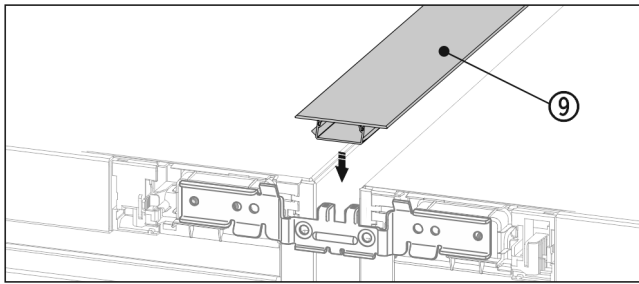

Fig. 24
- ▶ On the top press the short cover strip Fig. 24 (9) into the horizontal gap.